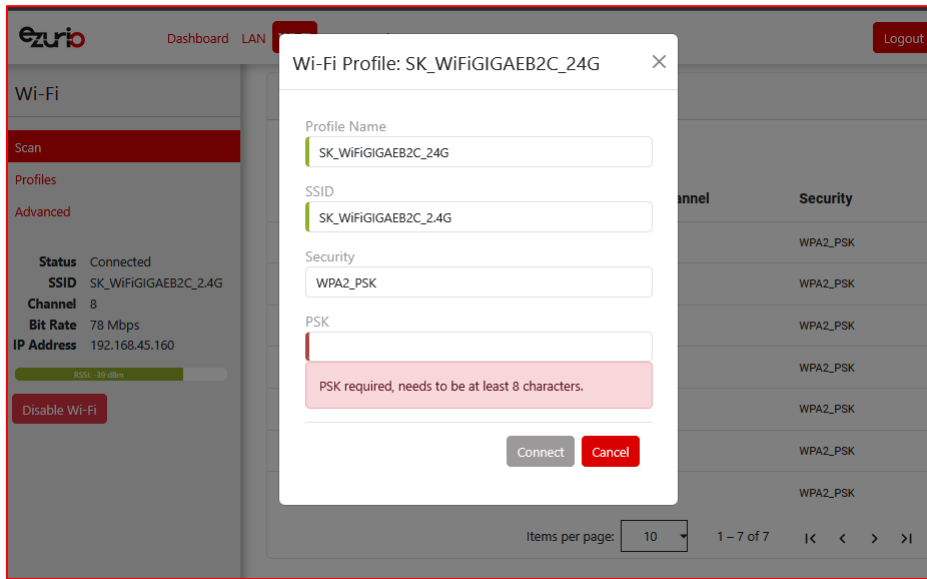

Figure 23: Wi-Fi profile window
- In the Wi-Fi profile window, enter the appropriate credential information for your chosen Wi-Fi network (Figure 23).